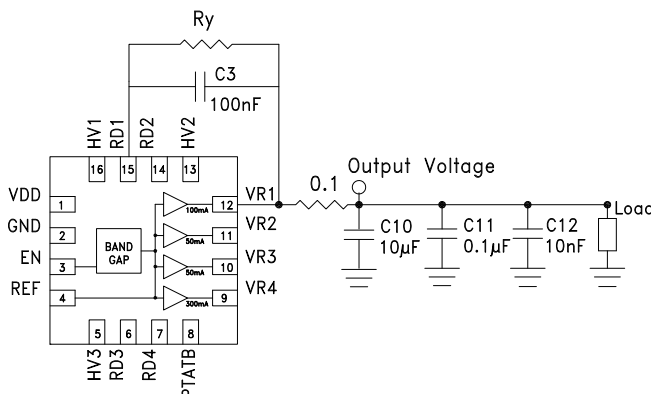

Figure 13. Recommended HMC1060LP3E configuration for supplying output voltage values less than default.[1]
The outputs of the HMC1060LP3E are configured to supply voltages less than the default values, down to 1.8 V minimum, by connecting a resistance (R_y in Figure 13) between pins VR_x and RD_x (where $x = 1,2,3,4$). Figure 13 shows an example of configuring VR1 output. Other outputs are configured in exactly the same way (ie. R_y is added between VR2 & RD2, VR3 & RD3 and between VR4 & RD4).
2. To set VR1 = VR2 = VR3 = 1.8 V in with PTAT Mode disabled, external resistance Ry = 21 kΩ shown in Figure 13 is required.